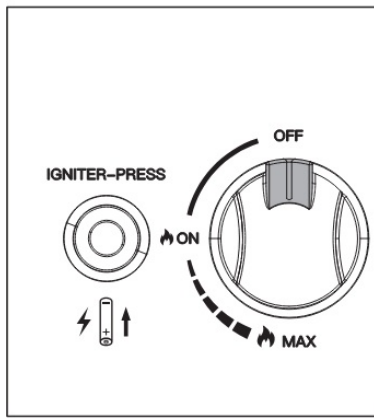

Figure 1
2. The control knob must be in the "OFF" position (Figure 1 ).